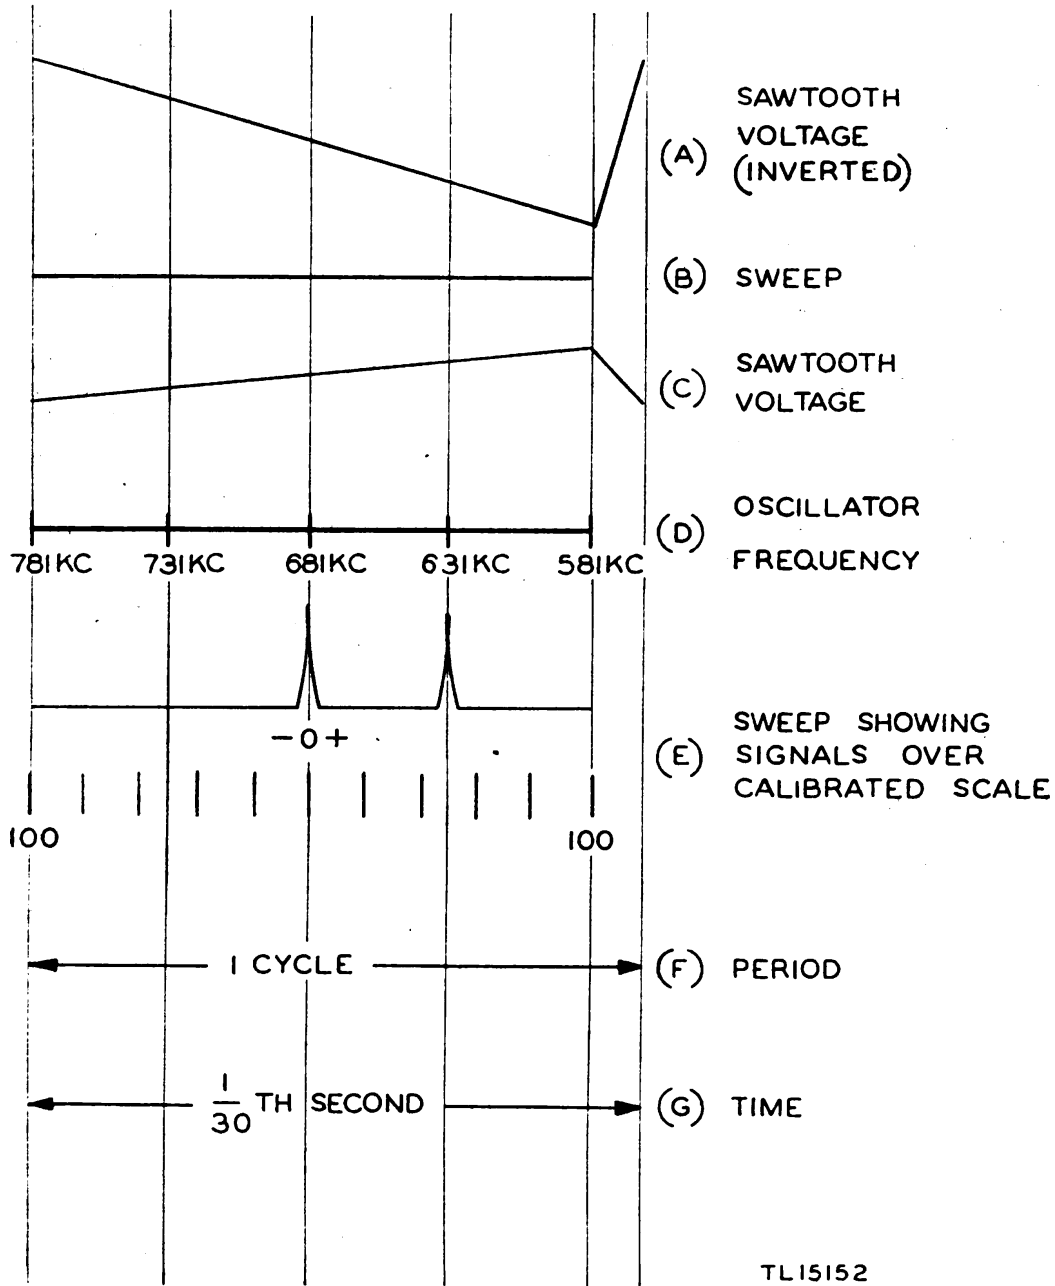

Figure 8. Time, voltage, and frequency relationships.
inverted saw tooth to be applied to the horizontal deflection circuit of the oscilloscope. Thus, at the same instant that the saw tooth (fig. 8(C)) is changing the oscillator frequency from 781 to 581 kc (fig. 8(D)), the inverted saw tooth (fig. 8(A)) steadily moves the oscilloscope electron beam from left to right across the screen tracing a straight line (fig. 8(B)). Since this trace line is thereby synchronized with the oscillator frequency sweep, any position on the line indicates the oscillator is tuned to a definite frequency (fig. 8(D)). When the oscillator is tuned to 681 kc (middle of its frequency sweep), it means the oscilloscope beam has also reached the middle of its horizontal trace.
(8) Assume now that the companion receiver is tuned to a 3,000-kc signal. This signal is mixed with the 3,455-kc signal from the h-f oscillator of the companion receiver to produce the 455-kc intermediate frequency. This latter frequency will pass through the companion receiver to the loudspeaker. It is also fed through the band-pass amplifier to the panoramic mixer. When the h-f oscillator reaches the 681-kc point of its cycle, it mixes with this 455-kc signal to produce the 226-kc intermediate frequency of the panoramic receiver. This burst of signal in the i-f system is detected and applied to the oscilloscope vertical deflection plates producing the peak at the center of the scale (fig. 8(E)). Thus the center ($- 0 +$) mark on the scale always represents the frequency to which the receiver is tuned, and the calibrations (± 100 kc) above and below this point indicate signals which are present on the antenna but are not being reproduced through the loudspeaker. Now, if at the same time the 3,000-kc signal is received, another signal is present on 3,050 kc, this frequency mixes with the h-f oscillator of the companion receiver to produce a 405-kc i-f. Since the companion receiver i.f. is sharply tuned to 455 kc, this signal never reaches the loudspeaker. However, it passes through the special band-pass amplifier to the panoramic mixer. When the h-f oscillator reaches the 631-kc point (fig. 8(D)) of its cycle, it beats with the 405-kc signal to produce the 226-kc frequency of the panoramic i-f system. This burst of i-f energy is detected and causes a peak to appear on the screen at the $+50$ -kc point (fig. 8(E)), the electron beam having reached in this time a point midway between the center and the right side of the screen. The 3,050-kc signal, therefore, is not heard but its presence is indicated on the panoramic screen.
NOTE: The saw-tooth voltage waveforms shown in figure 8(A) and 8(C) are theoretical representations. The linearity (rate of change) of actual saw-tooth voltages used in practice only approaches these ideal wave-forms. The amplitudes of the two saw-tooth voltages shown in figure 8 have a ratio of 2 to 1. Actually, the amplitude of the saw-tooth voltage applied to the horizontal plates of the cathode-ray tube in the adaptor is approximately 20 times as great as the saw-tooth voltage applied to the grid circuit of the reactance modulator.
(9) By similar reasoning it will be seen that any signal within the 200-kc bandwidth of the special band-pass amplifier will pass through the i-f amplifier of the adaptor at the correct time to appear on the screen in its proper relationship to other signals.
(10) Figure 8 shows one complete cycle of operation. This cycle is periodic and repeats approximately 30 times a second.